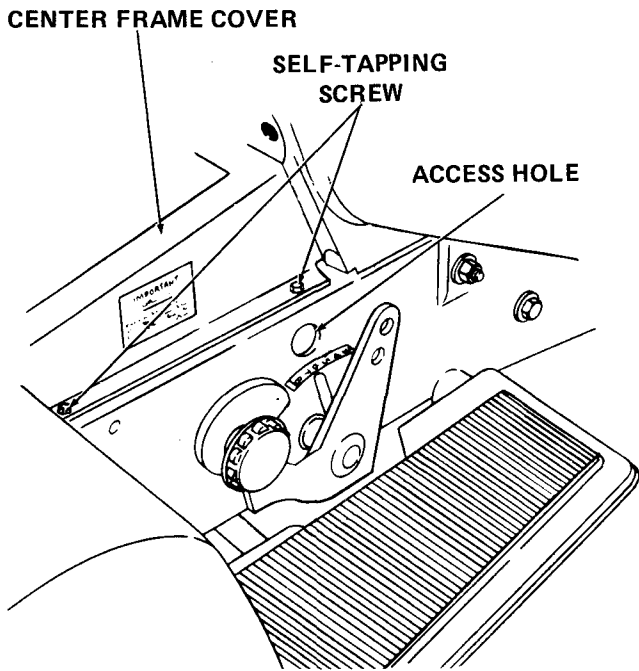

Figure B-3
2. Lower tractor lift to full down position. Check access hole to be sure headed pin is visible and positioned for later removal. Refer to Figure B-3.
4. Remove center frame cover by removing four self-tapping hex screws. Refer to Figure B-3.